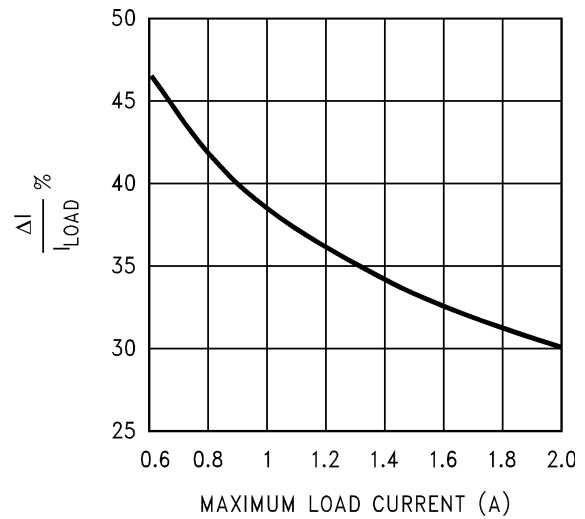

Figure 36. Current Ripple Ratio
4. The nomographs were generated by allowing a greater amount of percentage current ripple in the inductor as the maximum rated load decreases (see Figure 36). This was done to permit the use of smaller inductors at light loads. However, Figure 36 shows only the *median* value of the current ripple. In reality there may be a great spread around this because the nomographs approximate the exact calculated inductance to standard available values. It is a good idea to refer to *AN-1197 Selecting Inductors for Buck Converters (SNVA038)* for detailed calculations if a certain maximum inductor current ripple is required for various possible reasons. Also consider the rather wide tolerance on the nominal inductance of commercial inductors.